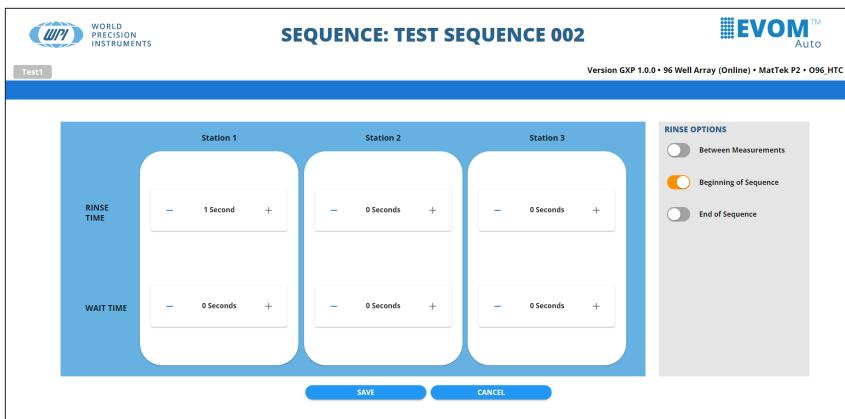

Fig. 68—The Rinse Time window lets you configure the rinse schedule.
11. The three rinse stations may be used for rinsing, disinfecting, stabilizing or any other function desired. Configure the rinse schedule by selecting *Rinse* from the menu. The *Rinse Time* window appears (Fig. 68). You can set the rinse time and the wait time in each rinse station using the toggle controls on each field. Three toggle buttons in the *Rinse Options* section on the right side of the window let you set when the rinse and wait parameters are implemented.